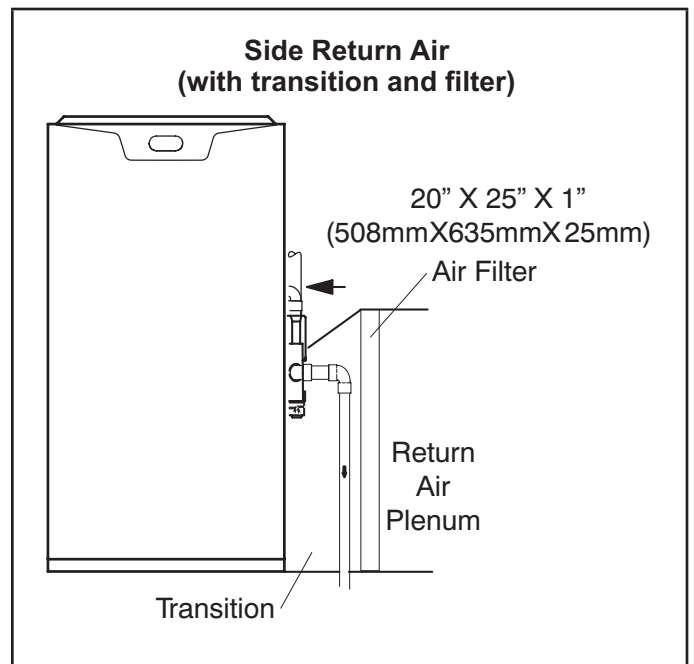

Figure 13
**EL196UHEK applications which include side return air and a condensate trap installed on the same side of the cabinet (trap can be installed remotely within 5 ft.) require either a return air base or field-fabricated transition to accommodate an optional IAQ accessory taller than 14.5". See Figure 13.**